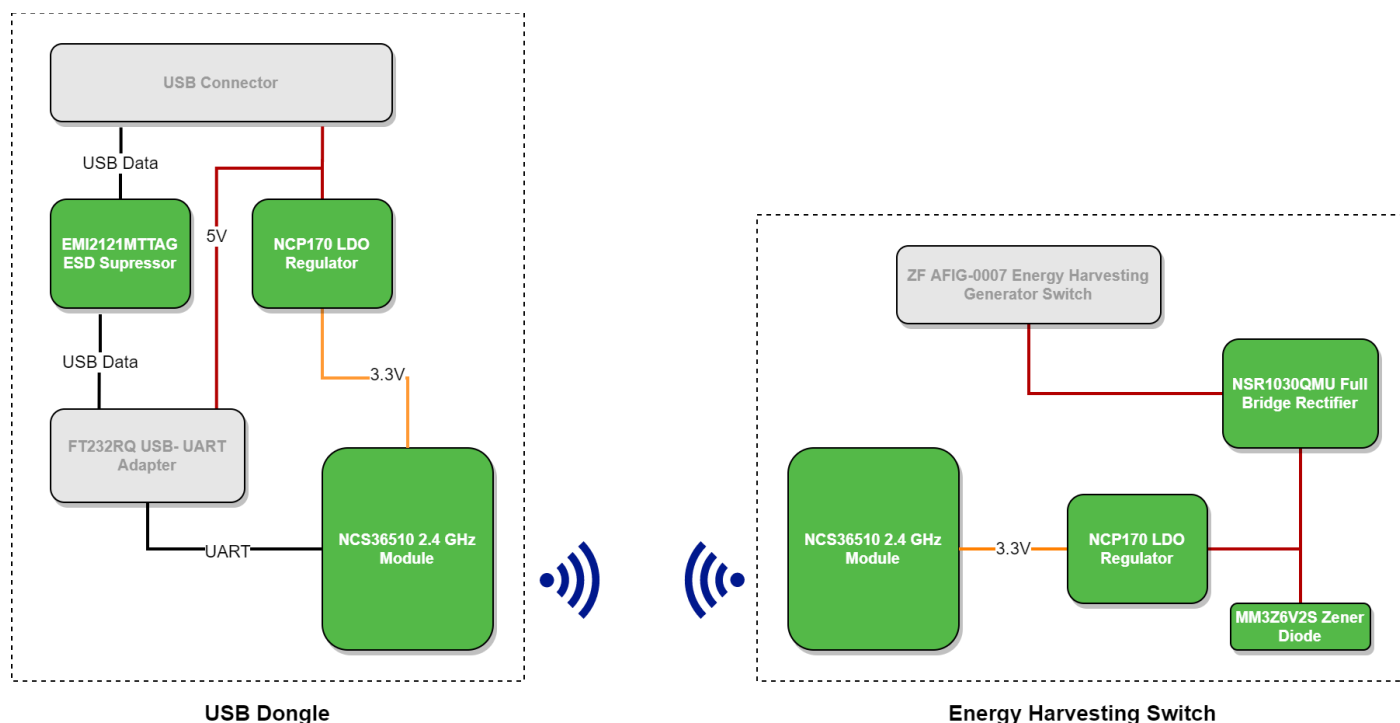

Figure 2: System Block Diagram
This kit consists of three boards: one USB dongle and two energy harvesting switches. The USB Dongle (NCS36510-ZB-USB-GEVB) is programmed with firmware that uses the DSR ZBOSS Zigbee 3.0 library, and is configured to be a Zigbee Coordinator (ZC). This device also interfaces with the Strata PC application via a JSON API, which is accessed via the FTDI USB-UART adapter. The Energy Harvesting Switch (NCS36510-ZB-EH-SWITCH-GEVB) is programmed with firmware to function as a Zigbee Green Power Device (ZGPD). It uses a ZF AFIG-0007 generator to provide power to the NCS36510 module via a rectifier and regulator. Each time the switch is pressed, a Zigbee Green Power “Toggle” command is sent from the ZGPD to the ZC. The Block diagram is shown below in Figure 2.